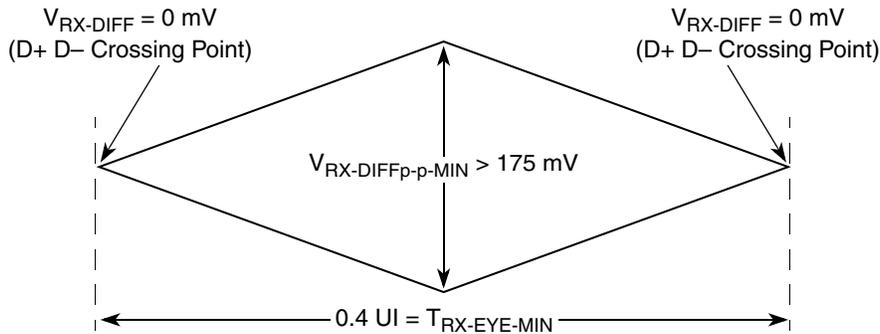
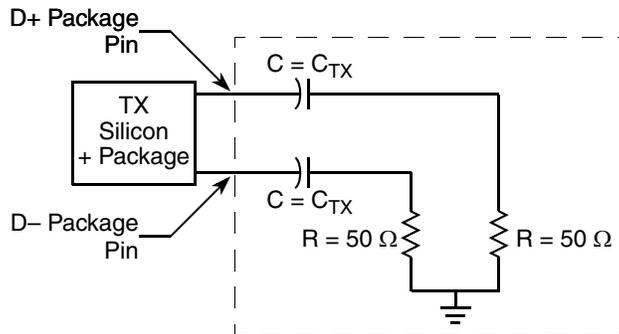

Figure 57. Minimum Receiver Eye Timing and Voltage Compliance Specification
Figure 58. Compliance Test/Measurement Load
2. Specified at the measurement point and measured over any 250 consecutive UIs. The test load in Figure 58 should be used as the RX device when taking measurements (also refer to the receiver compliance eye diagram shown in Figure 57). If the clocks to the RX and TX are not derived from the same reference clock, the TX UI recovered from 3500 consecutive UI must be used as a reference for the eye diagram.
4. The receiver input impedance shall result in a differential return loss greater than or equal to 15 dB with the D+ line biased to 300 mV and the D– line biased to –300 mV and a common mode return loss greater than or equal to 6 dB (no bias required) over a frequency range of 50 MHz to 1.25 GHz. This input impedance requirement applies to all valid input levels. The reference impedance for return loss measurements for is 50 Ω to ground for both the D+ and D– line (that is, as measured by a vector network analyzer with 50- Ω probes, see Figure 58). Note that the series capacitors C_{TX} is optional for the return loss measurement.
The RX eye diagram in Figure 57 is specified using the passive compliance/test measurement load (see Figure 58) in place of any real PCI Express RX component.
In general, the minimum receiver eye diagram measured with the compliance/test measurement load (see Figure 58) will be larger than the minimum receiver eye diagram measured over a range of systems at the input receiver of any real PCI Express component. The degraded eye diagram at the input receiver is due to traces internal to the package as well as silicon parasitic characteristics which cause the real PCI Express component to vary in impedance from the compliance/test measurement load. The input receiver eye diagram is implementation specific and is not specified. RX component designer should provide additional margin to adequately compensate for the degraded minimum receiver eye diagram (shown in Figure 57) expected at the input receiver based on some adequate combination of system simulations and the return loss measured looking into the RX package and silicon. The RX eye diagram must be aligned in time using the jitter median to locate the center of the eye diagram.
The reference impedance for return loss measurements is 50 Ω to ground for both the D+ and D– line (that is, as measured by a vector network analyzer with 50-Ω probes, see Figure 57). Note that the series capacitors, CTX, are optional for the return loss measurement.
The AC timing and voltage parameters must be verified at the measurement point, as specified within 0.2 inches of the package pins, into a test/measurement load shown in Figure 58.